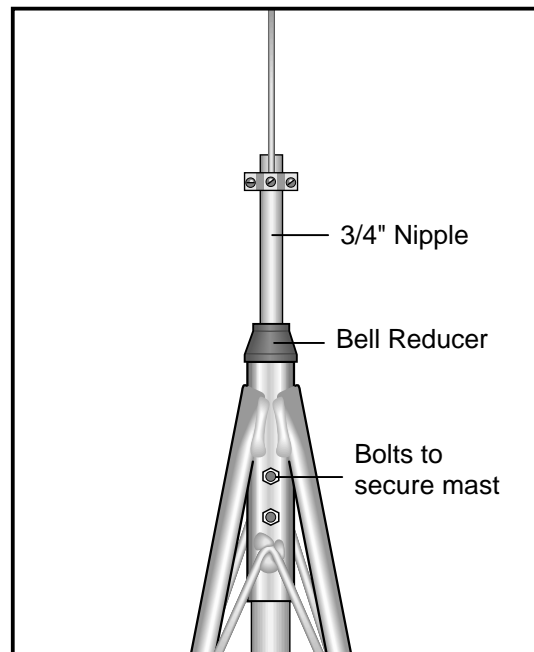

FIGURE 2.1-4. UT10 Mast
1. Install the mast as shown in Figure 2.1-4. Attach the 3/4" x 10" nipple to the mast using the bell reducer. Loosen the two bolts at the top of the tower and insert the mast. For a 3 m mounting height, the bell reducer should rest against the top of the tower. Tighten the two bolts to secure the mast.